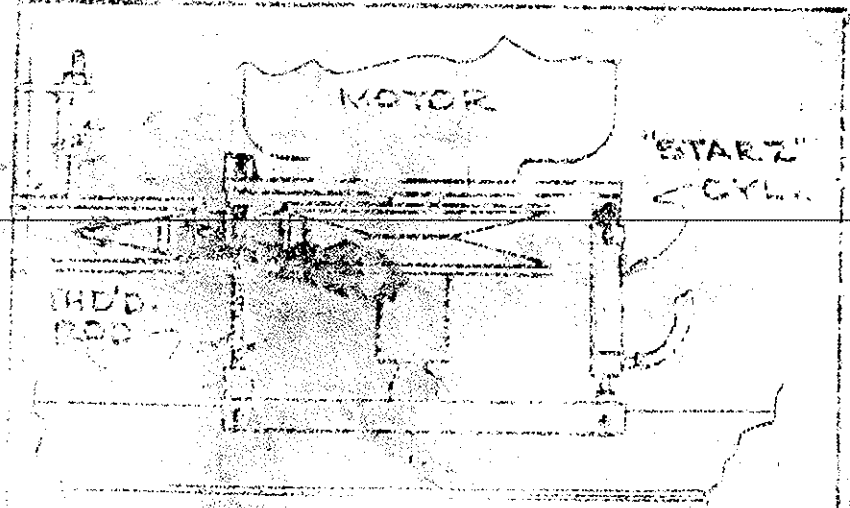

Figure 8
B. Start Cylinder Assembly (See Figure 8)